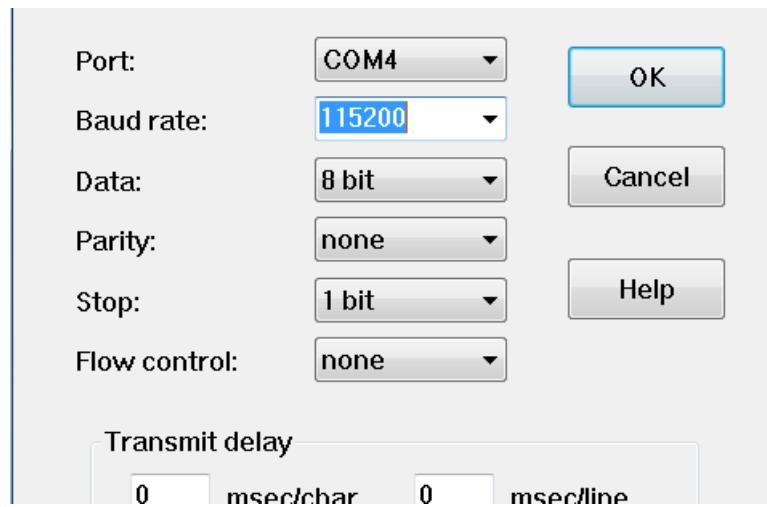

Figure 3. Serial Port Settings
5. Configure the host serial port as follows (see Figure 3): 115200 baud, no parity, 1 stop bit, no flow control